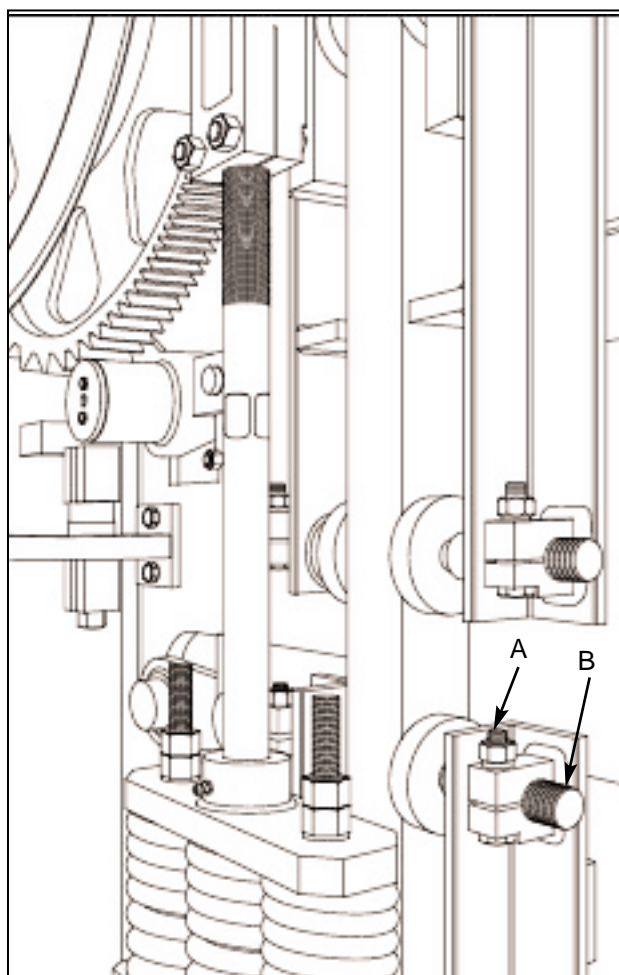

Figure 5.19 UPPER GUIDE LINER ADJUSTMENT SCREW.
A. To make the following adjustments (see figure 5.19):
1. Loosen the nut (A).
2. Adjust the guide liner (B) as desired.
3. Tighten the nut (A).